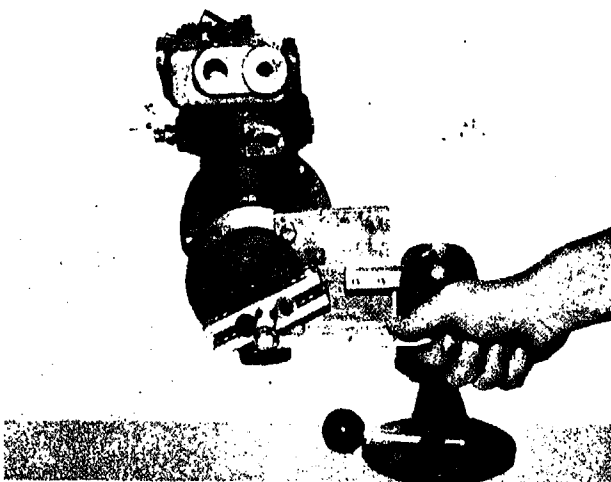

Fig. 12-2-10. Remove counterweight
8. Install puller and remove counterweight. Fig. 12-2-10.